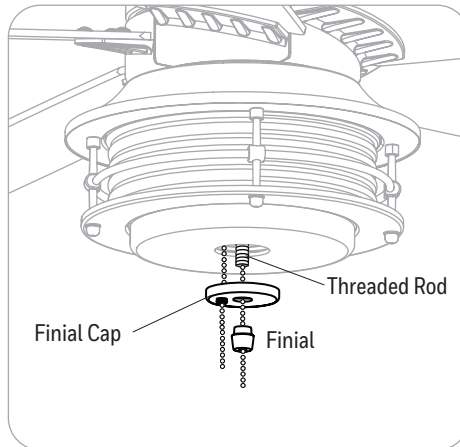

Figure 5.11
11. Feed the pull chain coming from the threaded rod through the center hole in the finial cap and the off-center pull chain through the off-center hole in the finial cap. Secure using the finial (Figure 5.11).